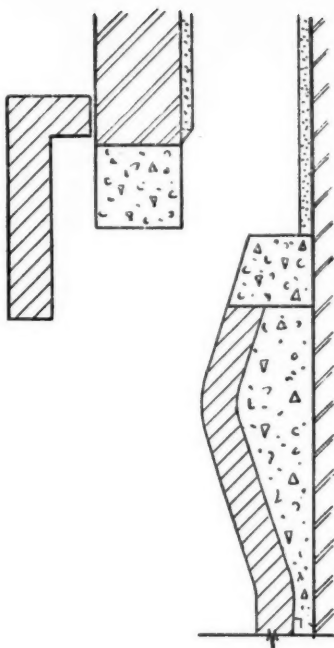
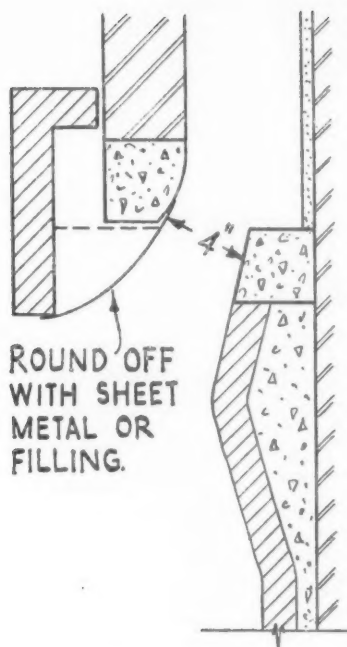

FIG. 2
FIG. 3
**Fireplace surround.** The tiled fireplace surround is usually bought and fitted without regard to the effect it can have on the functioning of the flue. Fig. 2 shows a common feature that can contribute to a smoky chimney. Care should be taken to ensure that the gap between the lintel and the surround is either filled and finished to a smooth curve or closed by means of a curved plate as shown in Fig. 3.